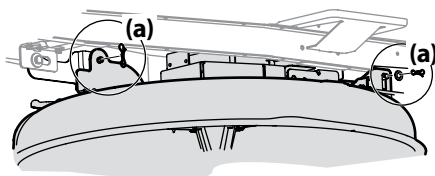

Figure 4-7
- Remove the remaining bow-tie cotter pins (a) securing the deck to the riding mower, as shown in Figure 4-7.